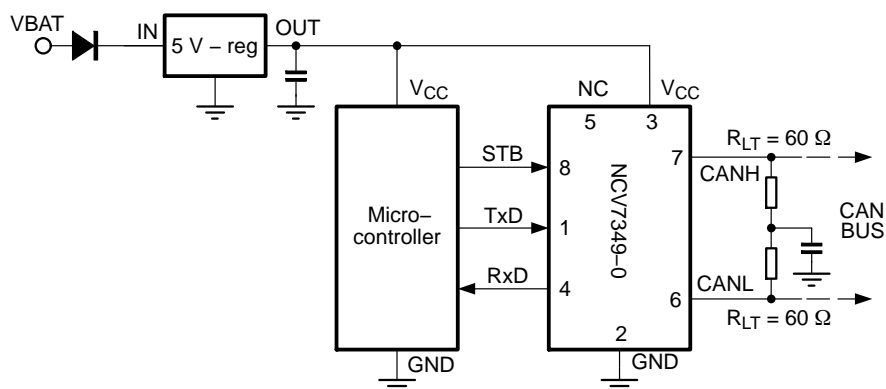

Figure 2. Application Diagram, NCV7349-0
**NCV7349-0:** Pin 5 is not connected. (see Figure 2)